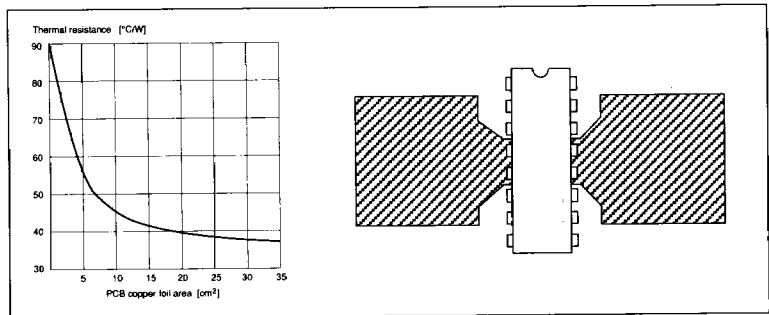

Figure 15. Copper foil used as a heatsink.
* For the DIP, the four ground pins soldered to a 20 cm² ground plane according to figure 15. For the PLCC, all ground pins are soldered to a 20 cm² ground plane located as close as possible to the device and on both sides of a double sided PCB.